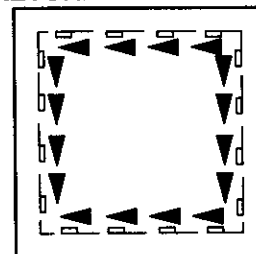

FIGURE 2
- 1 - Cut opening in floor or platform. Using knockouts provided, cut bottom of base panel. See figure 2.